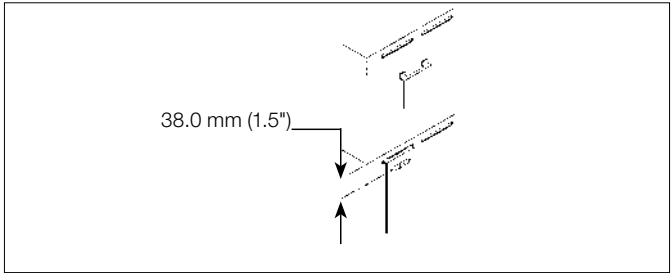

Figure 1
4. Secure mounting brackets to vertical surface with the top mounting hole 38 mm (1.5") below the desired top surface height (Figure 1, page 5). Refer to Figure 3 and Figure 4, page 6 for physical dimensions and Figure 5, page 7 for required installation clearances. Mounting brackets are to be spaced to match the slots in the rear panel of heater cabinet.